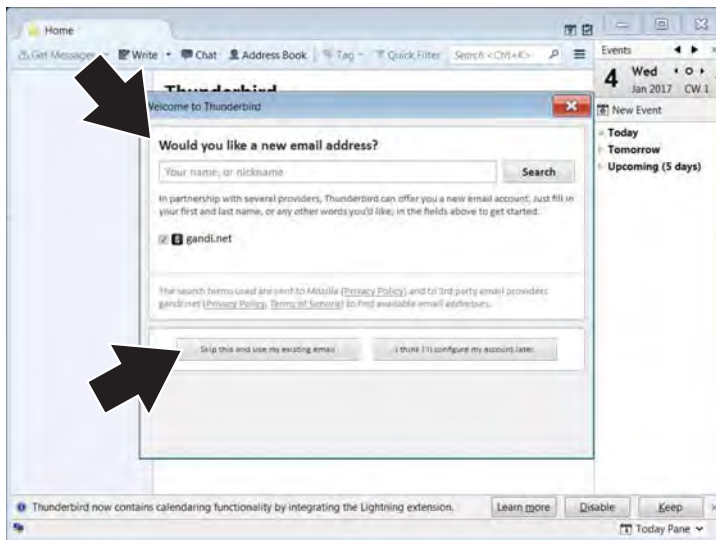

Figure 11-12
- 4. Choose to use your existing email address, or create a new email address with the email client (Figure 11-12).